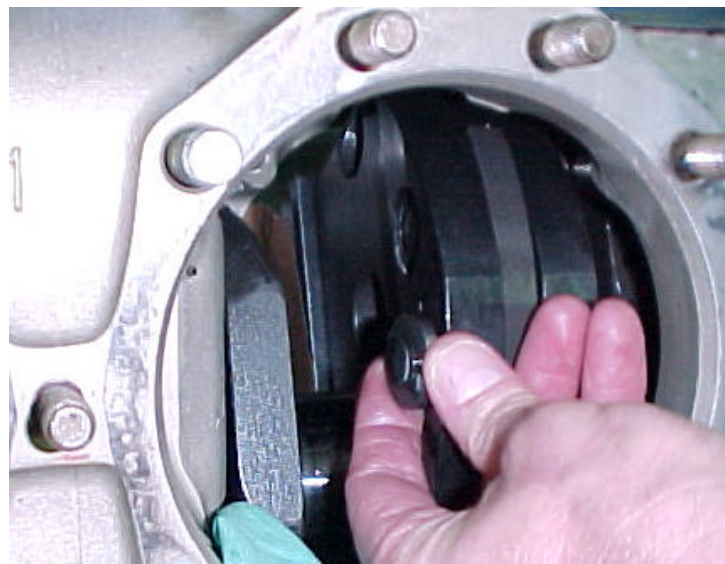

FIGURE 2
10. Position the crankshaft so that the rearward (aft) snap rings and plates of each counterweight can be removed. Using a pair of snap ring pliers, remove and discard the two snap rings. Remove the two retaining plates. See Figure 2. Do not discard retaining plates, they will be reinstalled in their original location after completing the inspection. Place masking tape or an equivalent adhesive tape over the counterweight pin bores